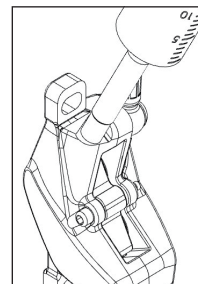

Fig 8
- Attach the syringe bleed fitting to the caliper bleed port. (Fig. 8)